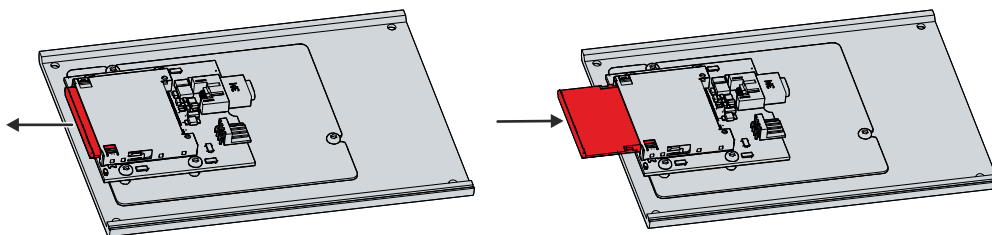

Fig. 18: C6905\_Cfast replacement
1. Pull the CFast out of the holder (see fig. 18).